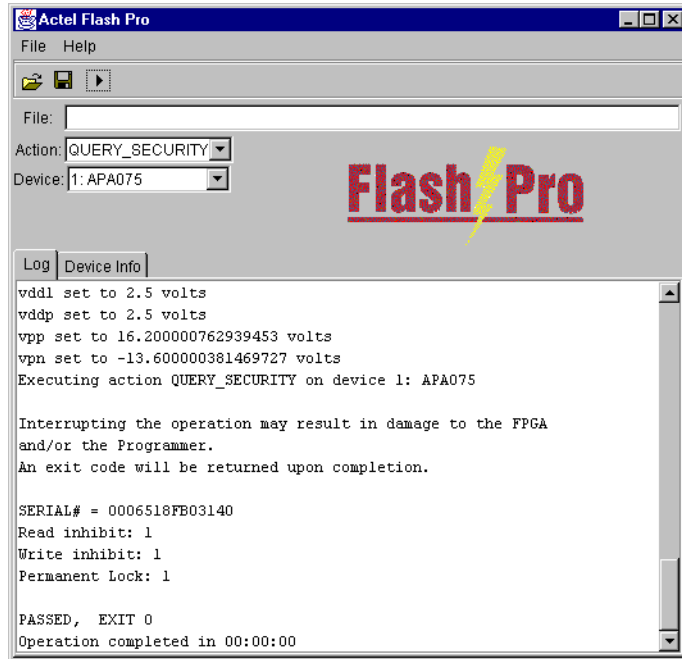

Figure 2-17. Query Results for the Permanently Locked Device
4. **Make your selections and click *Execute* to start programming.** The progress of the programming action is displayed in the Log window. The message 'Exit 0' indicates that the device has successfully been programmed as shown in Figure 2-17.